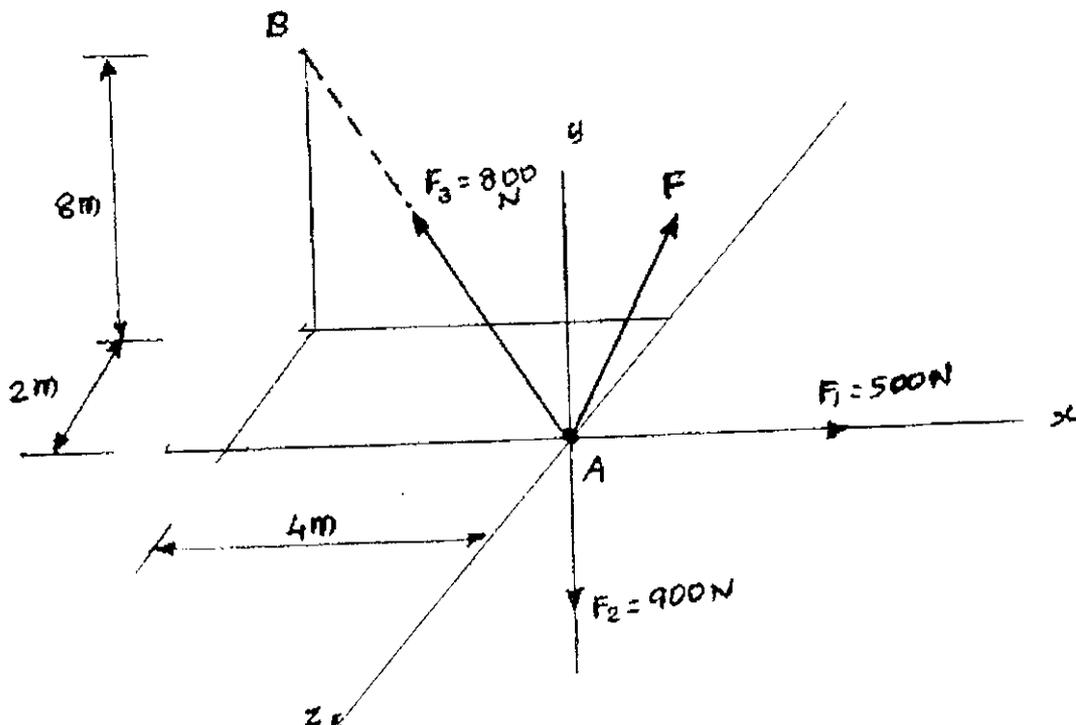

Fig. 2
- (ii) Determine the magnitude and direction of force  $F$  shown in Fig.2 so that the particle  $A$  is in equilibrium. (10)